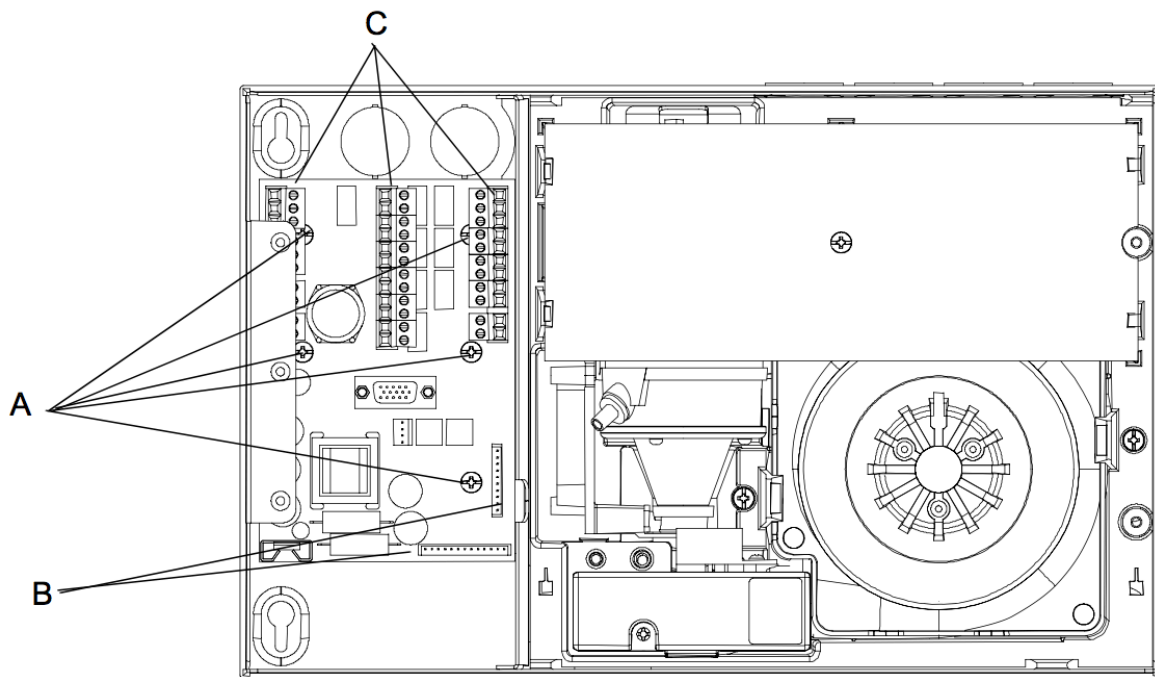

Figure 13: Replacing VLP/MLS head termination cards
2. Remove all terminal plugs (C) from sockets, leaving the wires attached to the plugs, refer to Figure 13 below.
3. Remove the 10 wire and 13 wire cable looms from their socket (B) in Figure 13 below.
4. Remove the five Phillips head screws (A) in Figure 13 below.
6. Attach the Termination Card with five Phillips head screws (A).
7. Reattach the 10 wire and 13 wire cable looms to the sockets. (B) The connectors can only be inserted into the socket one way. Turn the connector around if